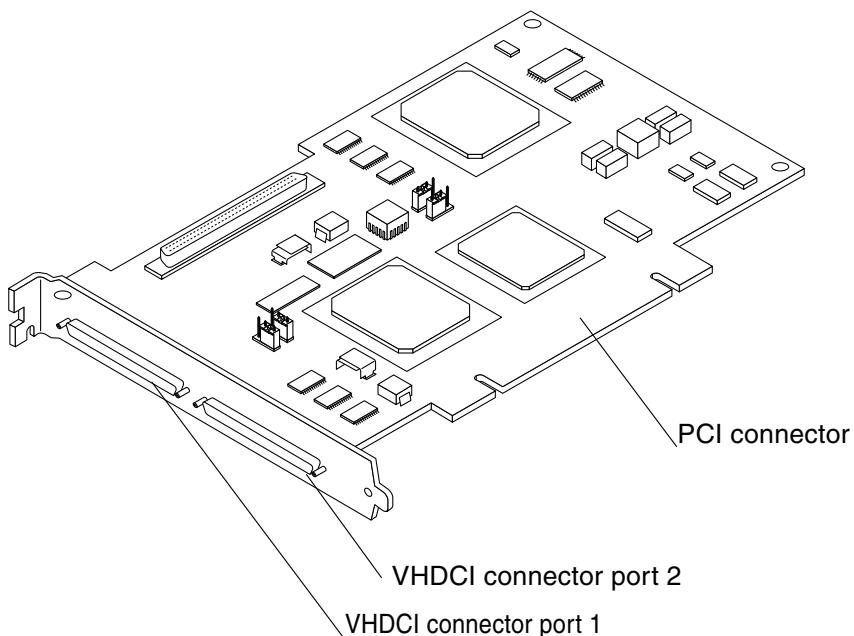

FIGURE 1-1 Sun StorEdge PCI Dual Ultra3 SCSI Host Adapter
- Sun StorEdge PCI Dual Ultra3 SCSI host adapter (FIGURE 1-1)
The host adapter is shown in FIGURE 1-1. The Very High Density Cable Interconnect (VHDCI) connectors are for the VHDCI cables that are used to connect the host adapter to the storage device.
In the example, the first SCSI port (**scsi@4**) has one disk drive connected (target 0). The second SCSI port (**scsi@5**) also has one disk drive connected (target 0). In the illustration of the host adapter in FIGURE 1-1, the first SCSI port is labeled as Port 1; the second SCSI port as Port 2.